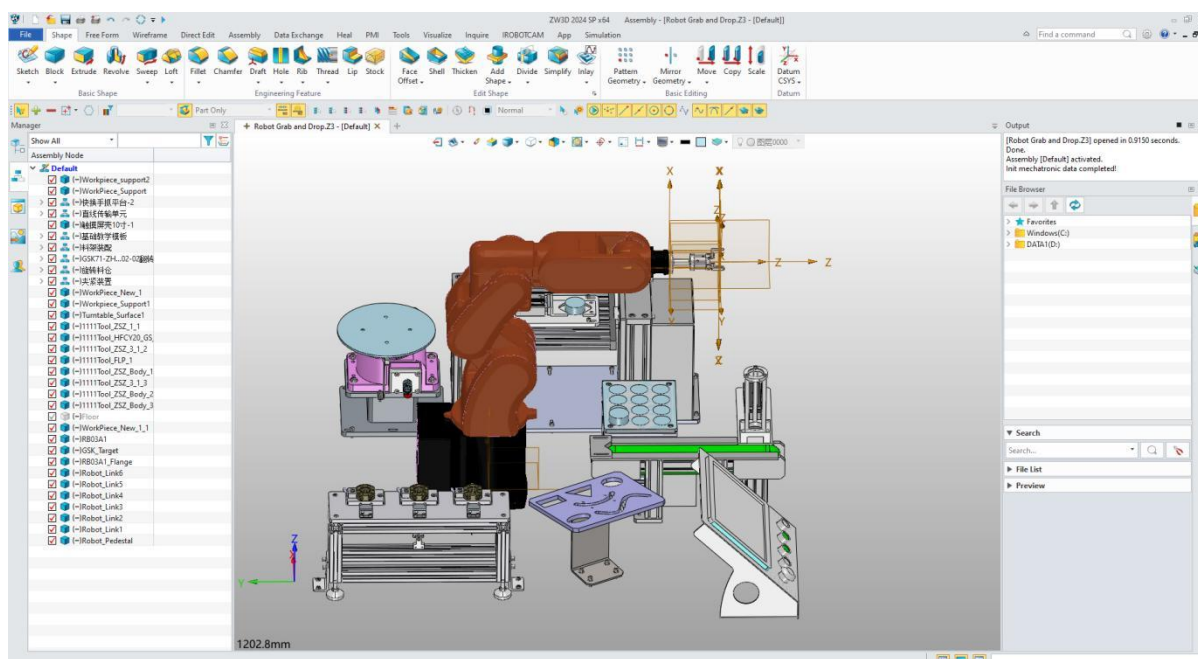

Figure 10-2: Interface details
- Open iRobotCAM project file "Robot Pick and Place.Z3" and enter the IROBOTCAM environment. (Figure 10-2)